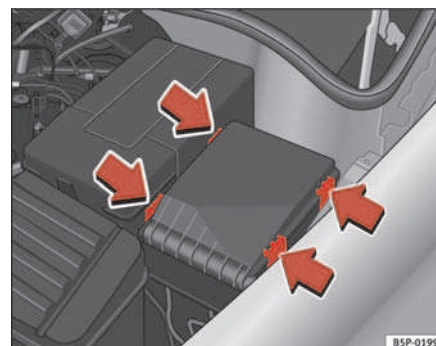

Fig. 172 Fuse box cover in engine compartment
- Prise off the fuse cover in the engine compartment by pressing the tabs towards the centre of the cover ⇒ **page 235, fig. 172.**